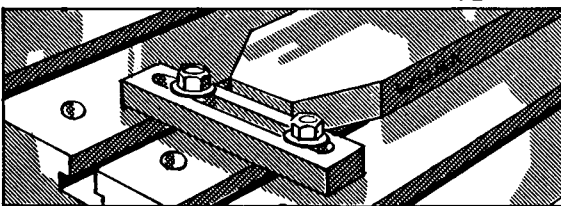

FIG. 179
8. Put a T-bolt in each of the selected table slots and place the bar over the bolts (Fig. 179).